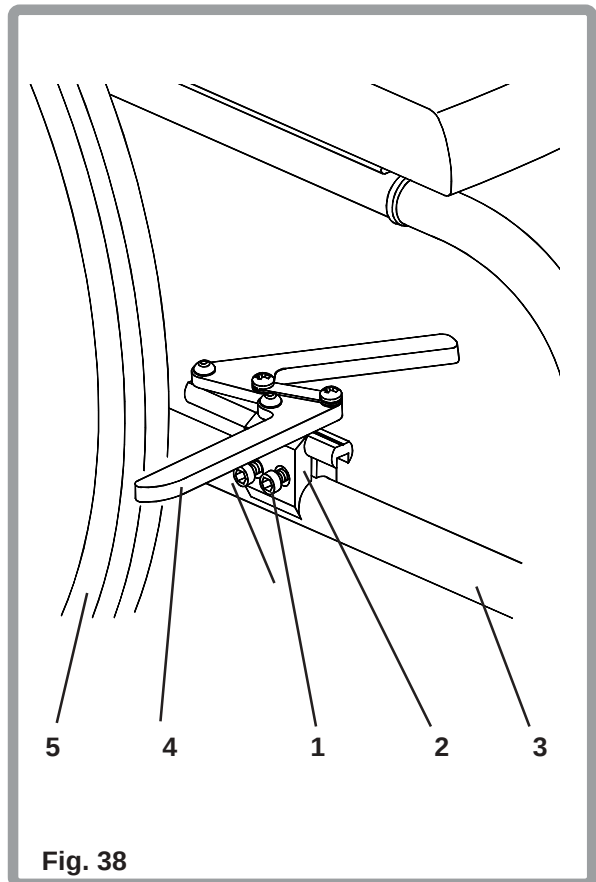

Fig. 38
To adjust low mounted wheel locks the two retaining screws (1) must be loosened a $\frac{1}{4}$ turn at a time, using a 5mm A/F Allen key, alternating between the two screws until the clamp (2) can slide along the frame tube (3). The grip bar (4) must embed into the tyre (5) approximately 4mm (3/16") to be correctly set. When the correct setting is achieved tighten the retaining screws $\frac{1}{4}$ turn at a time to a torque setting of 15Nm (Fig. 38).